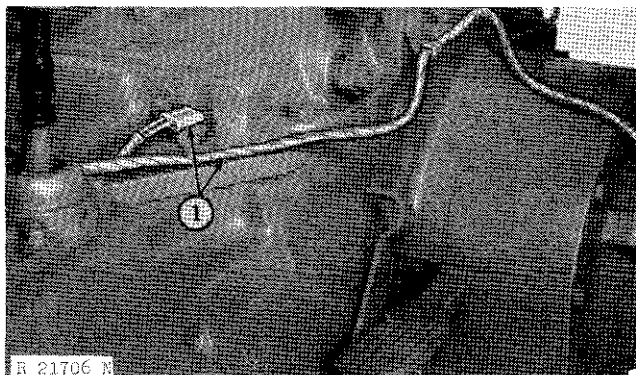

Fig. 9-Left-Hand Separation Procedures
1. Disconnect wiring harness from neutral-start switch and light switch (Fig. 9).